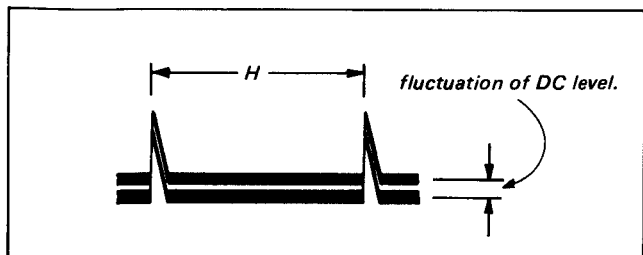

Fig. 5-28. AFC offset adjustment
- i) Adjust RV005 so that the fluctuation of DC level is minimum. (See Fig. 5-28.)